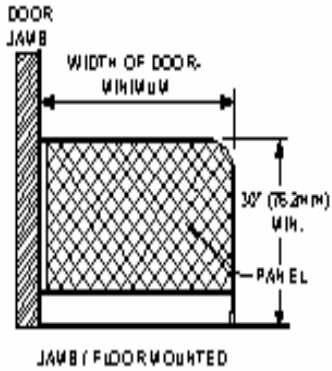

Figure 11
- 5. Guide Rails. Check that guide rails or other barriers or separators are present (two per swing door side) and firmly anchored. Rail length should be the width of the open door or greater. (See Figures 11, 12, 13).